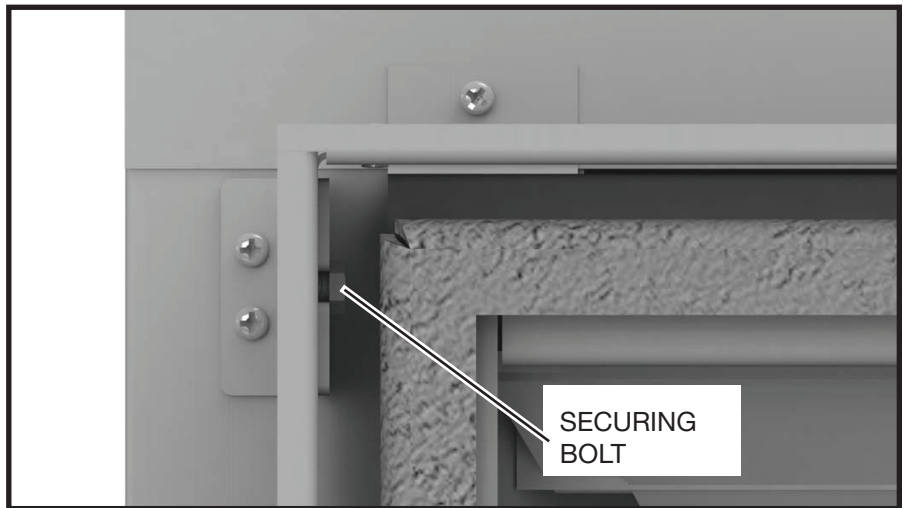

Figure 23: Lintel securing bolt.
2. Loosen the securing bolts in the upper and lower corners on each side of the lintel and remove the lintel. Rotate the assembly to have the desired edge away from the fireplace (Figure 23).
5. Tighten the securing bolts (Figure 23).